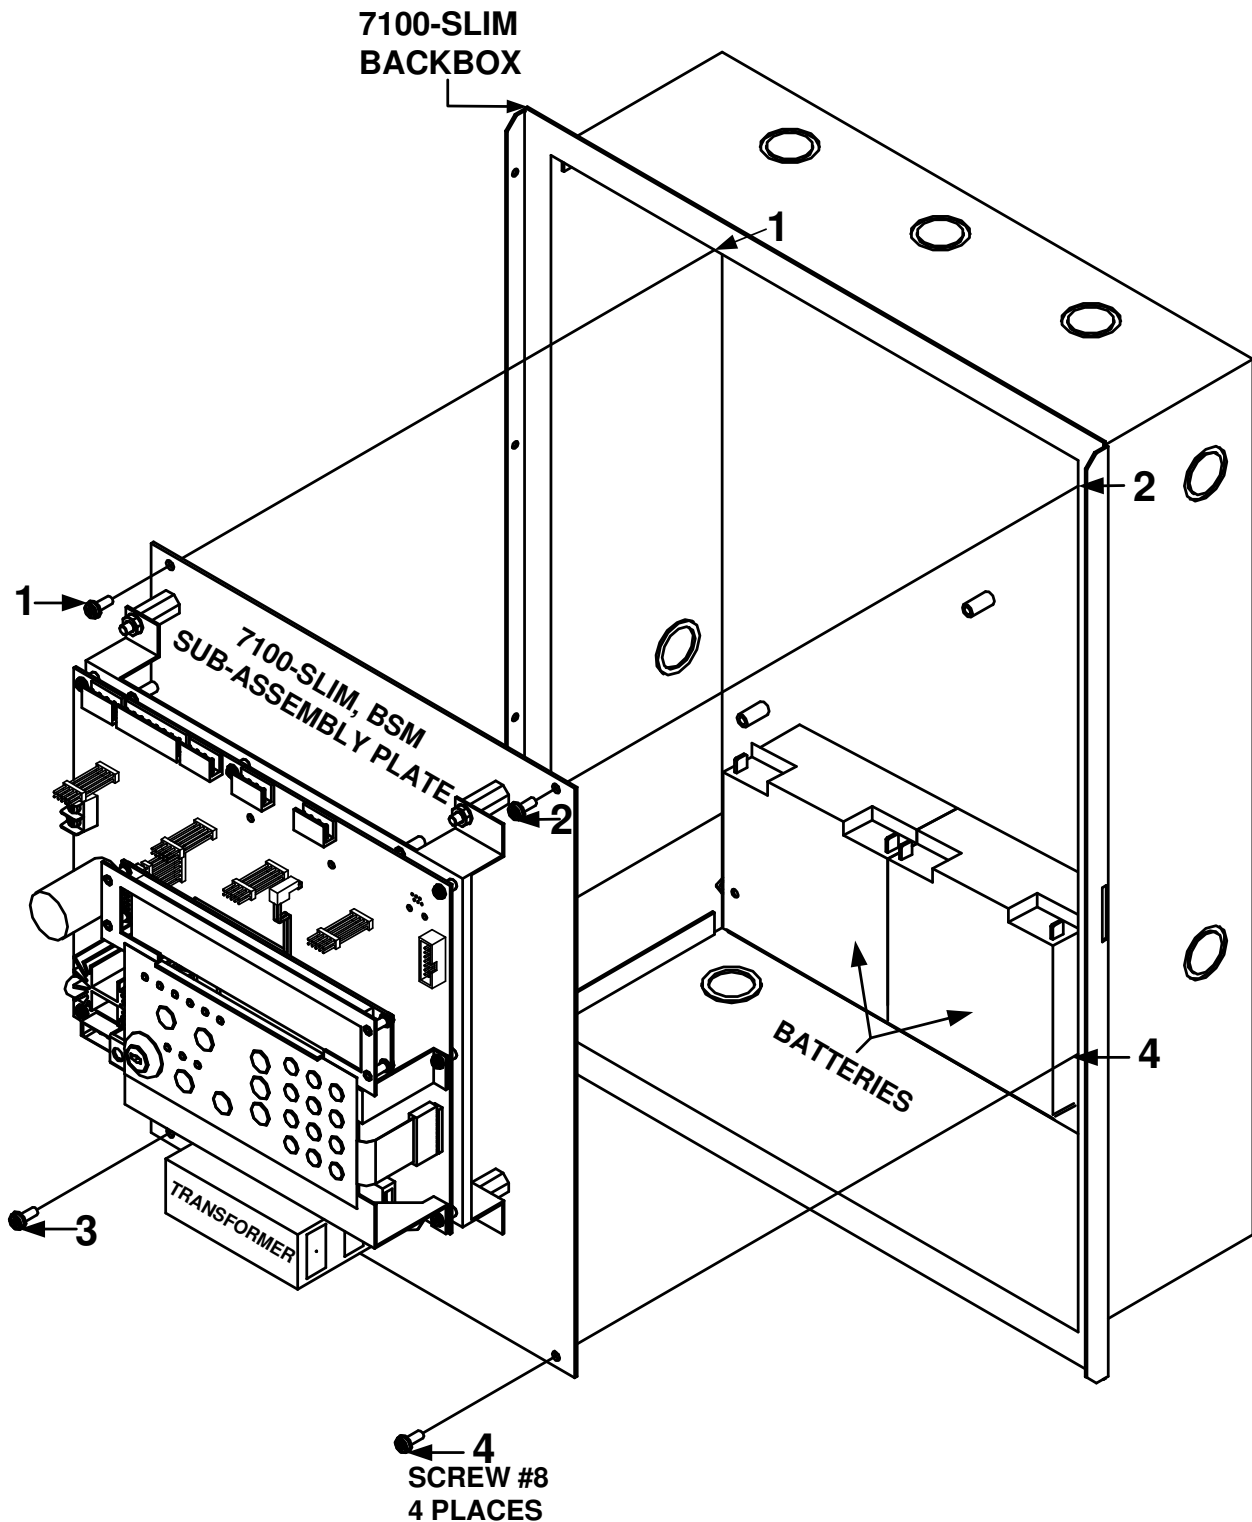

Figure 2.2.4.1 7100-Slim, BSM Sub-Assembly Plate to the Backbox Installation
Mount the 7100-Slim, BSM Sub-Assembly Plate to the studs in the backbox and secure the plate to the backbox with six (6), #10-32 nuts as shown in Locations 1 thru 4 in Figure 2.2.4.1.